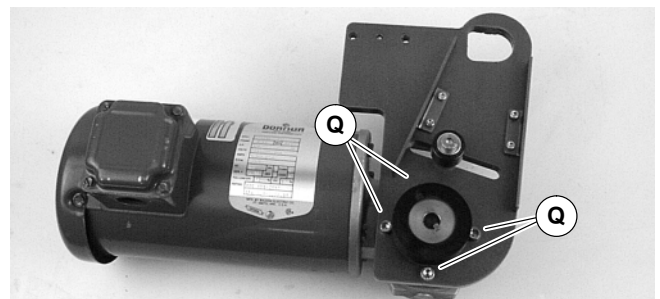

Figure 5
2. If required, change gearmotor position by removing four (4) screws (Q of Figure 5). Rotate gearmotor to other position and replace screws (Q). Tighten to 103 in-lb (12 Nm).